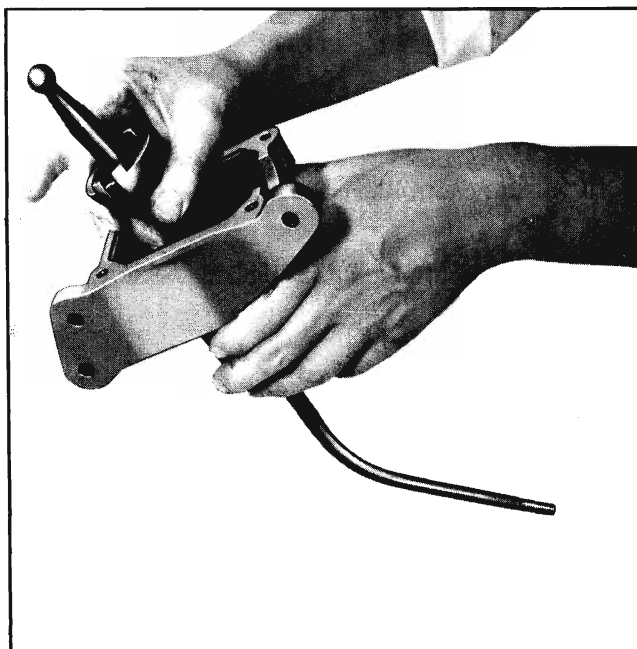

Fig. 7-16 Installing Shift Lever
4. Install control lever in housing as shown in Fig. 7-16.